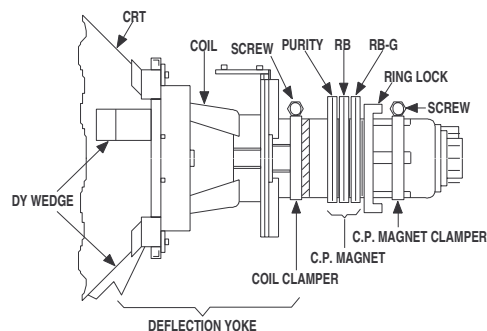

Fig. 6
4. Loosen the screw on the Deflection Yoke Clamper and pull the Deflection Yoke back away from the screen. (See Fig. 6)